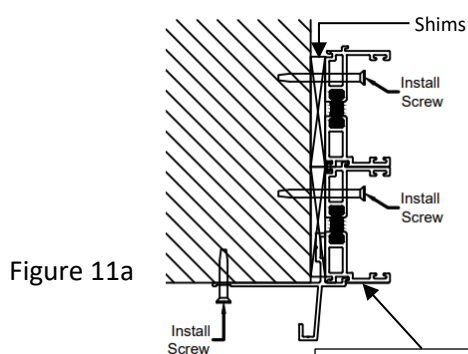
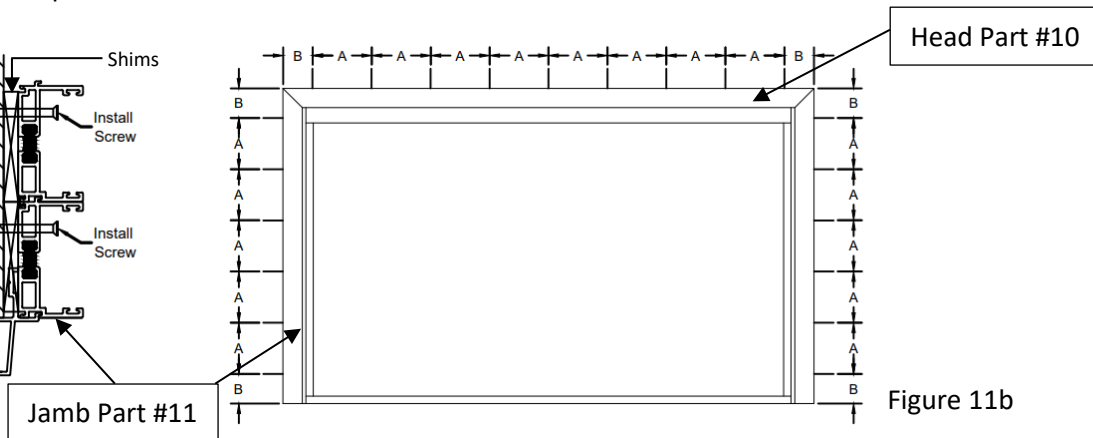

Figure 11a
Figure 11b
15. Secure door frame to the opening using appropriate fasteners. Install screws on the linear fin indicator as shown in figure 11a; spacing to be as shown in figure 11b where A = 12" and B = 3". Cross measure and use shims as necessary to adjust the door frame so that the door frame is plumb, level and square. Install screws where there are shims on the sill.